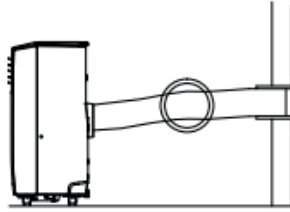

FIG. 7
- Avoid kinks and bends in the exhaust hose as this will cause expelled moist air to build up causing the unit to overheat and shut down. Fig 7 & 8 show correct position